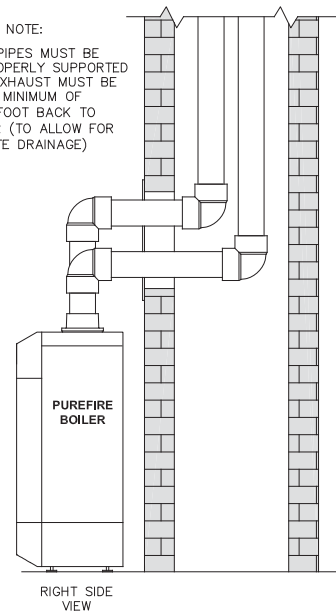

Figure 3.9: Venting Through a Chimney Using Outside Air
- Figure 3.9 shows an option for routing the exhaust and air inlet piping through an unused chimney.